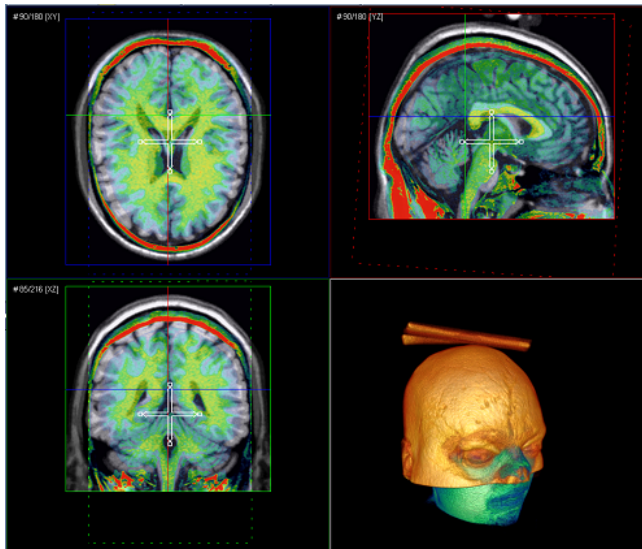

Figure 13.4: Manually registered patient data shown in the *Multiplanar Viewer*
- In the YZ [Sagittal] viewer use the rotate functionality of the manipulator to tilt the patient image by a few degrees clock-wise. Finally, use the translate functionality to center the (smaller) patient brain within the (larger) reference brain. The manually registered images should look similar to Fig. 13.4.